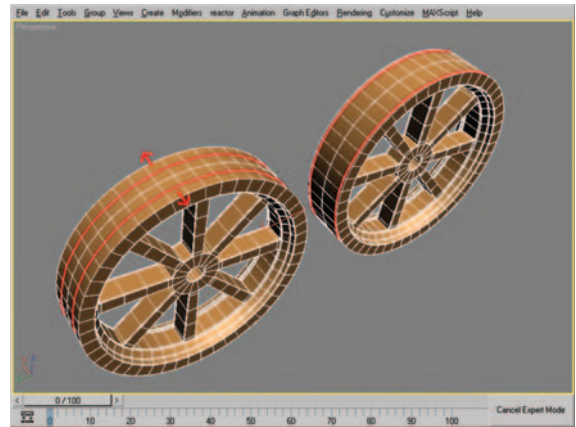

Figure 8.111 Edge-loop selections (left) and loops after being moved with the Move tool and Edge Constraints (right).
22. In the top or perspective viewport, select the edge loops seen in Figure 8.111 (left) (one side at a time) and use the Move tool along with Edge Constraints to move them out toward the outer edges as seen in Figure 8.111 (right).